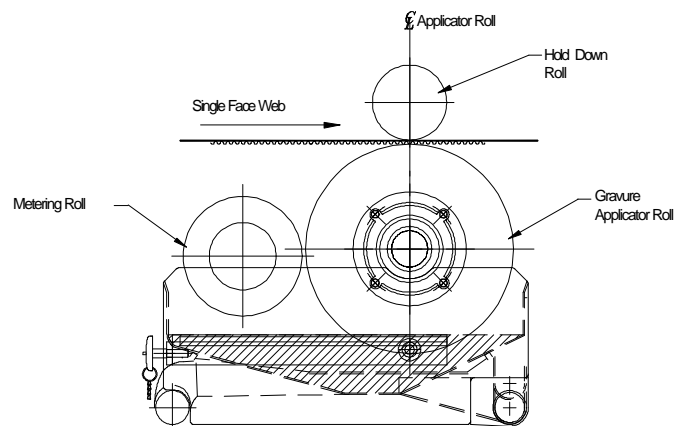

Figure 1
The typical double facer glue applicator is a two (2) roll system. This is shown in Figure 1. An applicator roll is rotating in a pan of glue. This roll is typically a gravure cylinder with pattern of